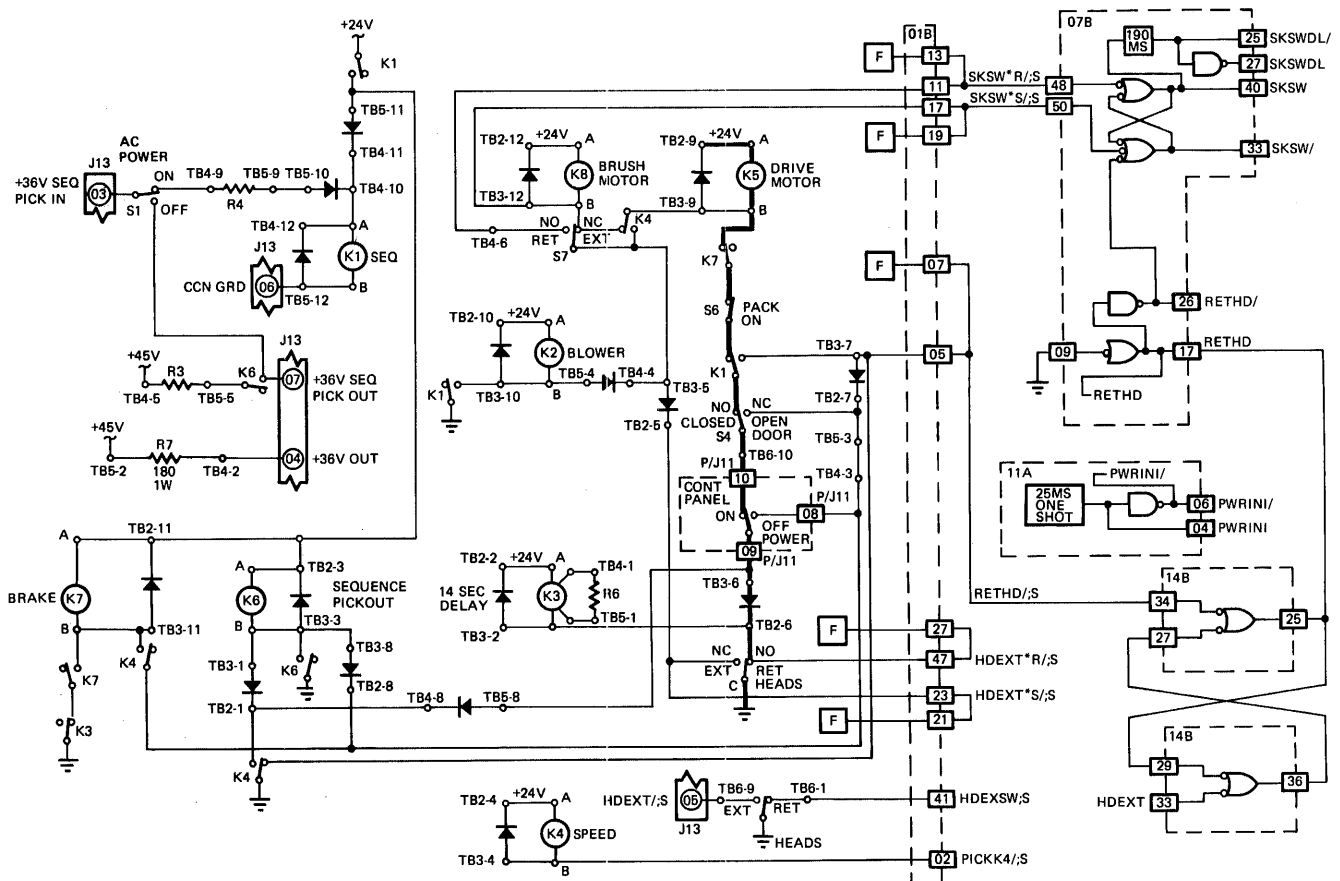

Figure 3-7. Energizing Drive Motor Relay K5
- Figure 3-7. Energizing Brush Motor Relay K8 and Speed Relay K5